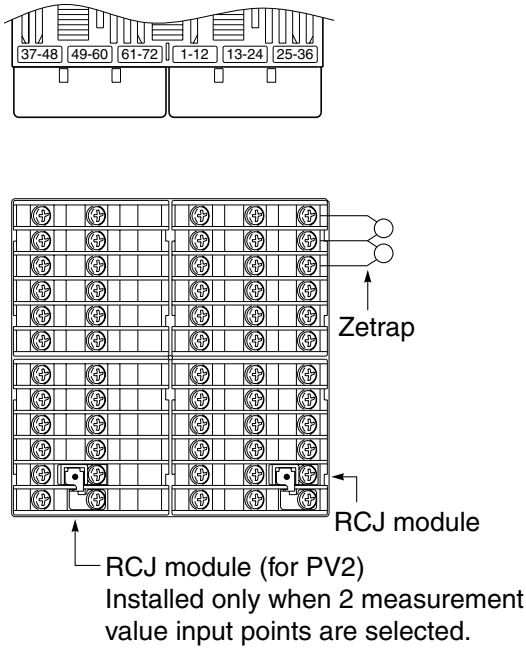

Fig. 5 Attachment position of Zetrap and RCJ module
Attachment position : Please connect between the relay control output connection points. (Refer to Fig. 5.)
- If using a thermocouple input, make sure that an RCJ module is connected as shown in the Fig. 5. (If an RCJ module is not connected, the temperature measurement cannot function.)